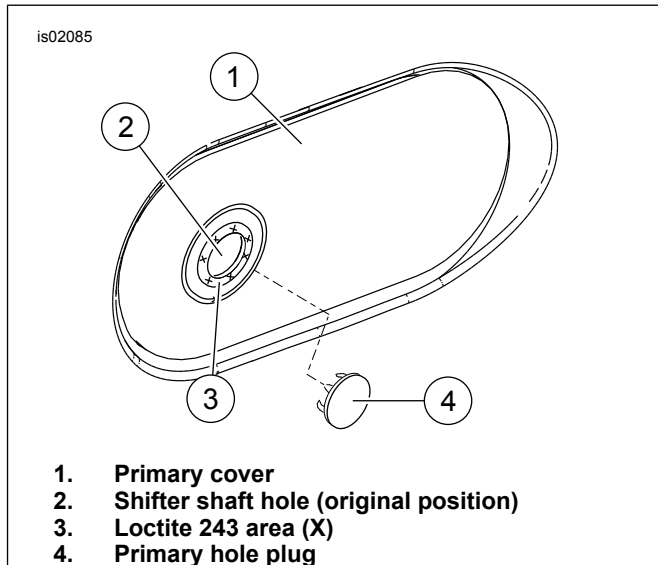

Figure 3. Outer Cover Plug Installation
- See Figure 3. Clean the area around primary cover (2) hole, removing all dirt, oil and grease. Apply Loctite 243 (Harley-Davidson Part Number 99642-97) around opening (3). Insert primary hole plug (4) into opening. Remove any excess adhesive from surface. Allow Loctite to cure for 24 hours before operating vehicle.